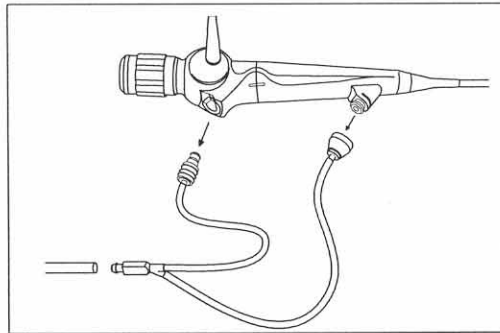

Figure 7.11
5. Turn the Suction Pump OFF. While holding the Control Section and directing the Instrument Channel Port downward, disconnect the Suction Cleaning Adapter from the endoscope. (See Figure 7.11)
7. Turn the Suction Pump OFF. While holding the Control Section and directing the Instrument Channel Port downward, disconnect the Suction Cleaning Adapter from the endoscope. (See Figure 7.11)